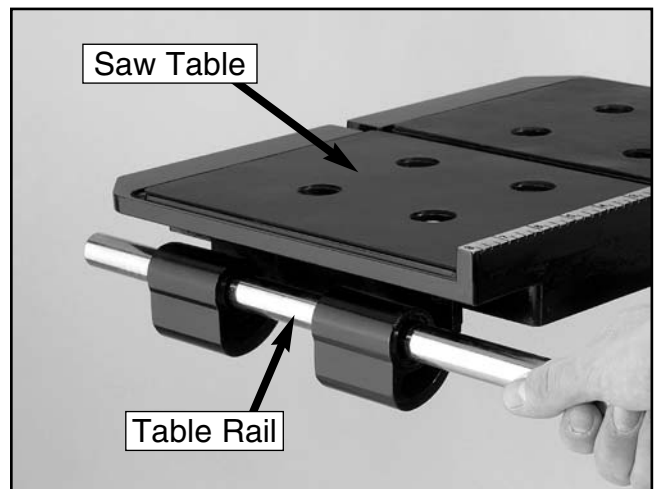

Figure 13. Assembling the table rail.
11. Slide the chrome table rail through the mounting holes on the table as shown in **Figure 13**.